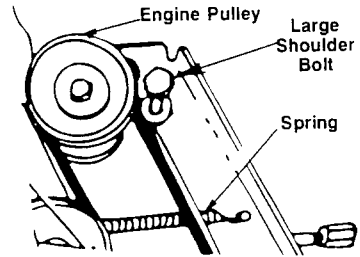

FIGURE 28
- Remove the large shoulder bolt and washer on the left hand side of the engine pulley with an adjustable wrench. See figure 28.
- a. Unhook extension spring from the belt cover plate. See figure 28.
- Reassemble the large shoulder bolt and lockwasher as shown in figure 28.